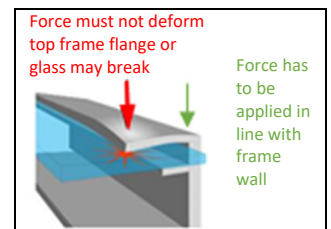

Figure 1a: Clamp Force Locations
- 2) **Pressure Clamps or Clips:** Mount the module with the opposite clips on the longer and/or shorter side of the frame of the module. The clips allowed location should be according to Appendix. Installers should ensure the clamps are of sufficient strength to allow for the maximum design pressure of the module. Clips and clamps are not provided by Maxeon . Clamps must apply force collinear with the 'wall' of the module frame and not only to the top flange. Clamps shall not apply excessive force to the top frame, warp the top flange, or contact the glass- these practices void the module warranty and risk glass breakage. Figure 1a illustrates locations for top frame clamp force. Avoid clamping within 50mm of module corners to reduce risk of frame corner deflection and glass breakage. When clamping to the module frame,